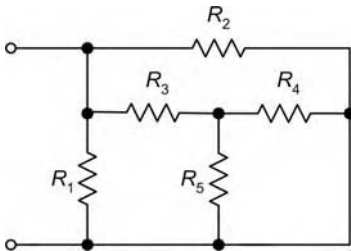

Figure 5.43
6. In Figure 5.43 which two resistors are connected in parallel?